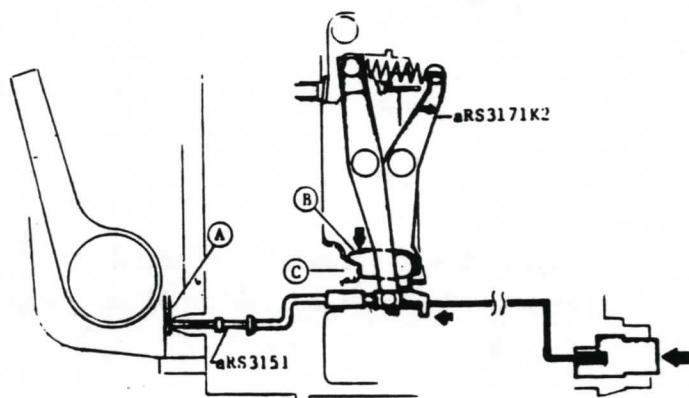

Fig. 79
(2) When the film-loaded Roll film holder is not wound, Double exposure preventive plate sticks out and stops Coupling pin of Revolving adapter. (Fig. 79.)
(3) In above condition, Spring (aRS3172) is extended by pushing the shutter button more deeply, and Stop plate B hits Body lug C. Consequently, shutter button can not be released and double exposure is prevented.